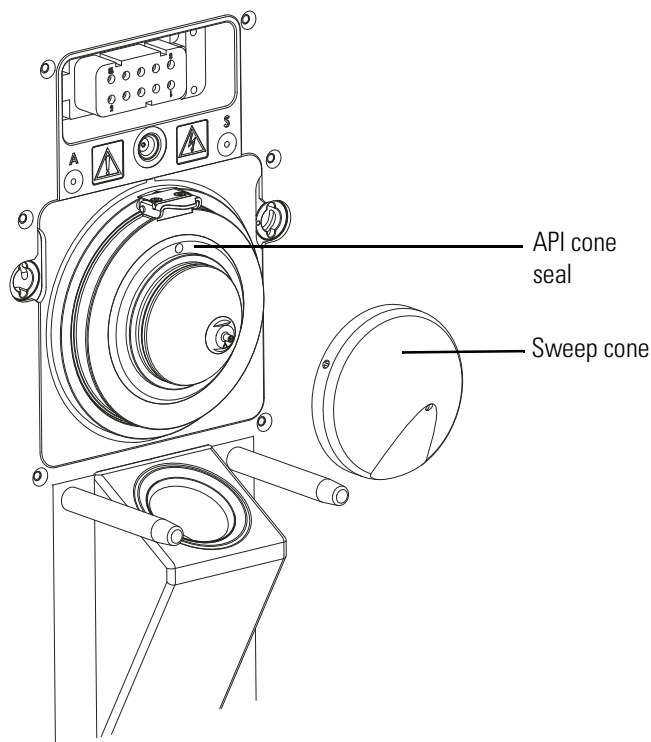

Figure 6-1. Sweep cone removed from the MS mount assembly (illustration similar)
- b. Grasp the outer ridges of the sweep cone and pull the cone straight off the API cone seal. See Figure 6-1.
8. Reinstall the sweep cone: Carefully align the gas inlet on the sweep cone with the sweep gas supply port (Figure 6-1) in the API cone seal. Firmly press the sweep cone into position.